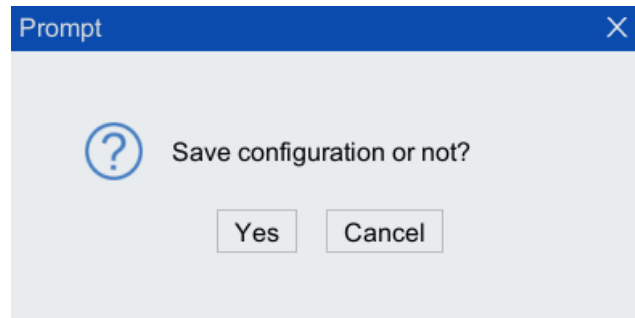

Figure 8-59 "Save Configuration" dialog box
Step2. Select "D\_DCB" or "EtherCAT Slave CCB" as slave, click <Browse> button, select the save path, then click <Yes> button to pop up "Save configuration or not?" dialog box in Figure 8-59 and click <Yes> button.